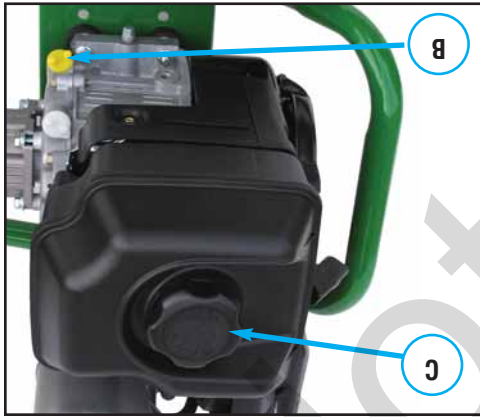

Figure 3
2. Remove oil fill cap (B). Slowly pour supplied oil into oil fill.
4. Remove fuel cap (C). See Figure 3. Add clean, fresh, UNLEADED fuel. Allow space in fuel tank for fuel expansion.